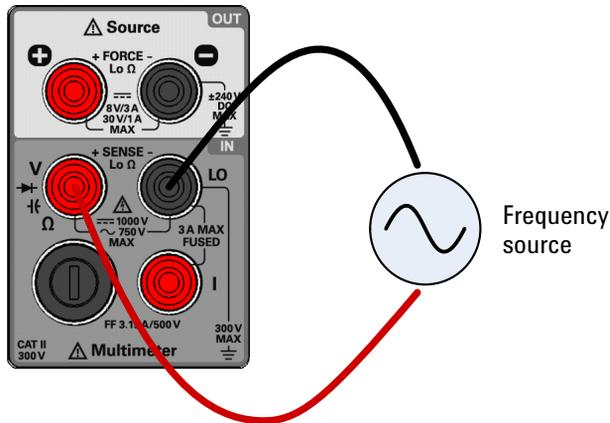

Figure 2-5 Terminal connections for frequency, pulse width, and duty cycle measurements via the voltage path
- 2 Connect the red and black test leads to input terminals **V** (red) and **LO** (black) respectively as shown in Figure 2-5.
- 3 Connect the red and black test leads to input terminals **V** (red) and **LO** (black) respectively as shown in Figure 2-5.